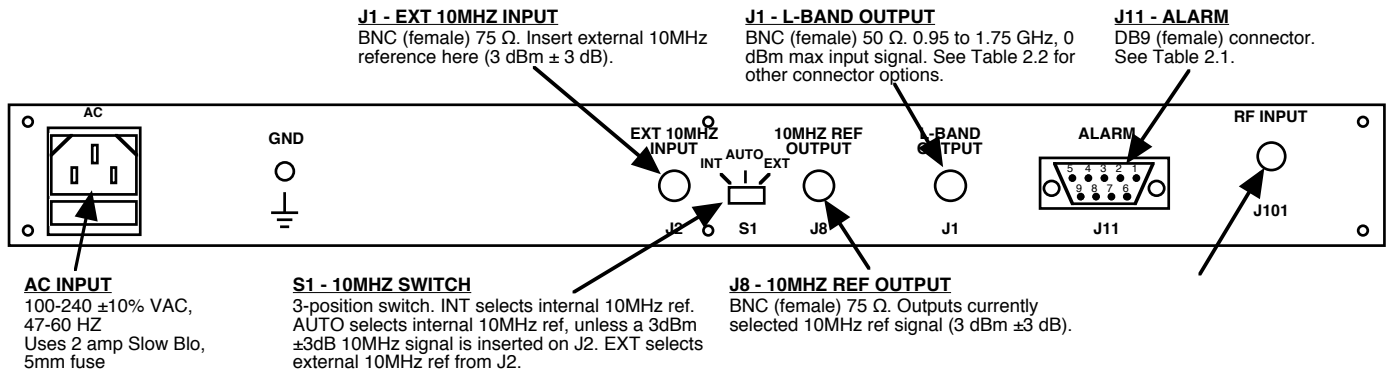

FIGURE 2.1 2116-118 Rear Panel I/O's
Figure 2.1 shows the input and output connectors on the rear panel.
1. Connect a -55 dBm to -35 dBm signal to RF INPUT, J101 (Figure 2.1).
5. Select either INT (for internal 10MHz ref), AUTO (for internal 10MHz ref UNLESS an external 10MHz, 3 dBm signal is connected to J2), or EXT (for external 10MHz, 3 dBm ref that is inserted at J2) on rear panel switch S1 (Figure 2.1).
7. Check that a 10MHz, 3 dBm \pm 3 dB signal is present at the 10MHZ REF OUTPUT (J8) (Figure 2.1).